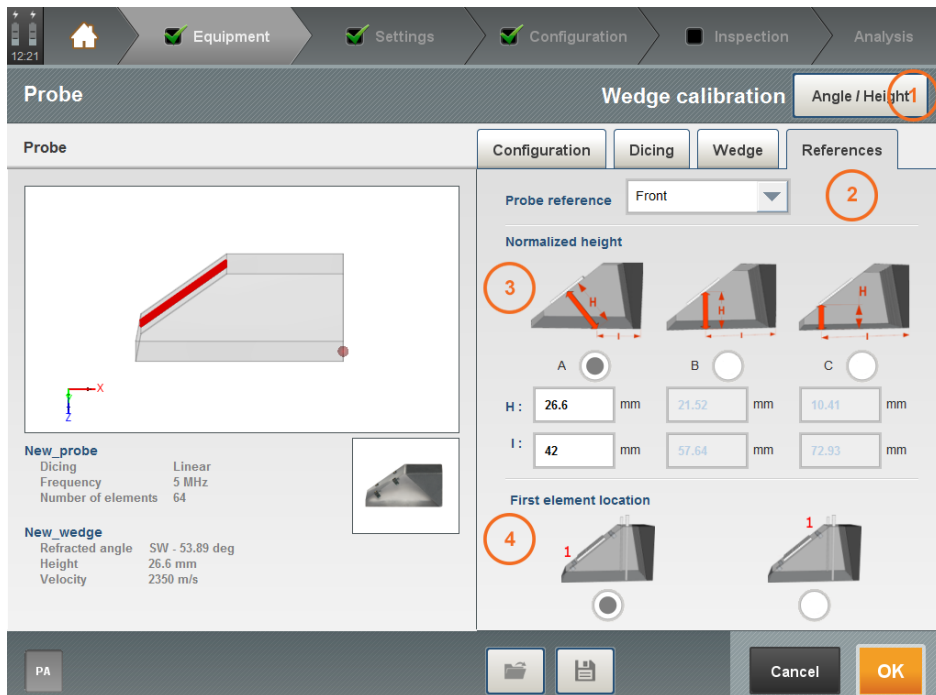
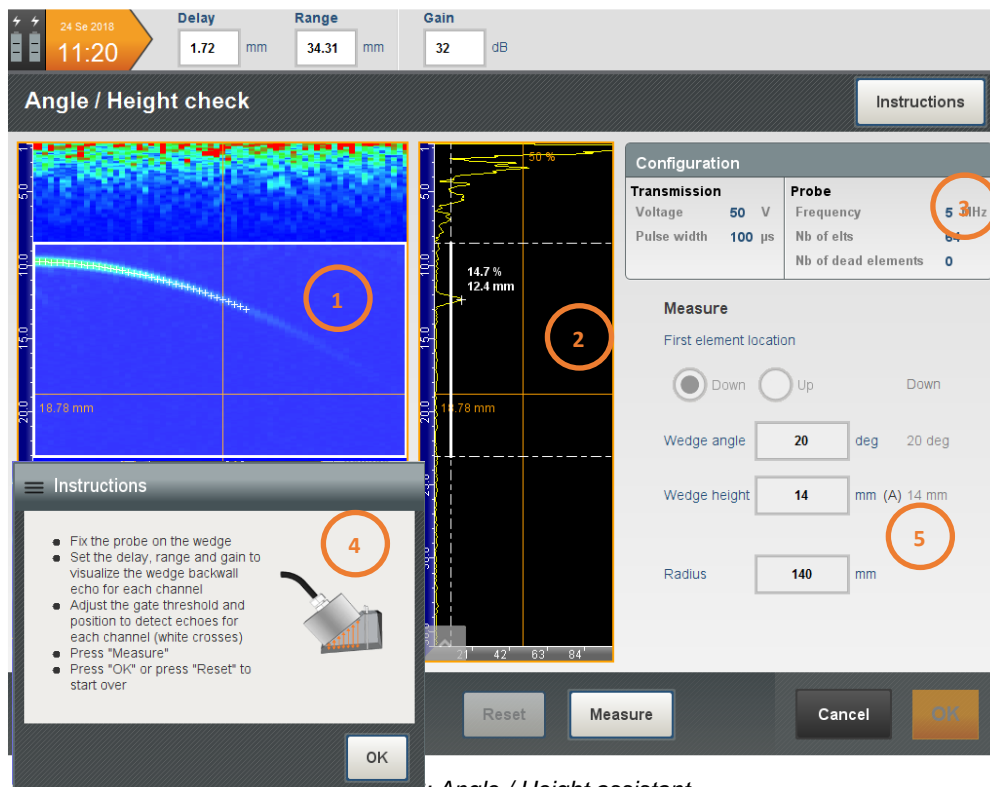

Figure 83: References
Figure 86: Angle / Height assistant
Press the **References** tab to define the probe origin and set the wedge height and front length in case of angled wedge (Figure 83).
If an angled wedge has been defined, the normalized height (H) and the front length (l) of the wedge have to be set in this tab (Figure 83).
Press **Angle/Height** (Figure 83– 1) to open the wedge angle/ height assistant (Figure 86).